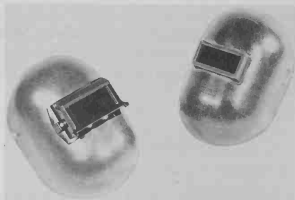

Fig. 7-13. Head shield for arc welding.
5. Wear a head shield, Fig. 7-13.